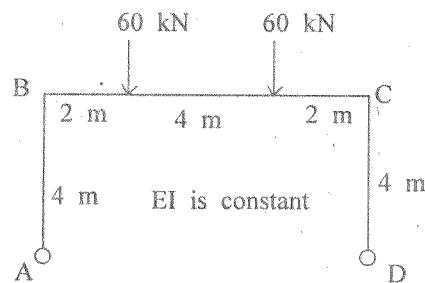

Fig. 8
16. Analyse the portal frame, shown in Fig. 8, using Kani's method. Draw BMD.